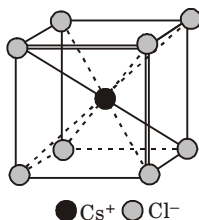

Fig. 1.8.2. Cesium chloride structure.
- (Fig. 1.8.2) shows the arrangement of Cs⁺ and Cl⁻ ions. Both have a coordination number 8.